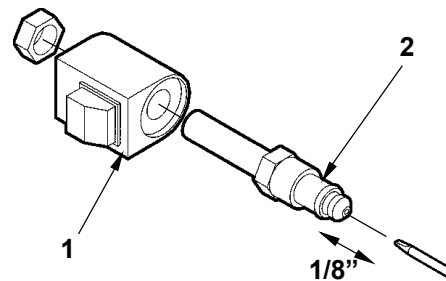

FIG. 38-2
2. Check the Valve Stem by removing the Coil Assembly (**Item 1, FIG. 38-2**). With platform on ground, unscrew the Valve Stem, (**Item 2, FIG. 38-2**) from the Pump. Push on the plunger that is located inside the Valve Stem by inserting a small screwdriver blade in the end. If the Plunger does not move freely (approximately 1/8") replace the Valve Stem. **When re-installing valve stem, torque hex nut to 30 in-lbs.**